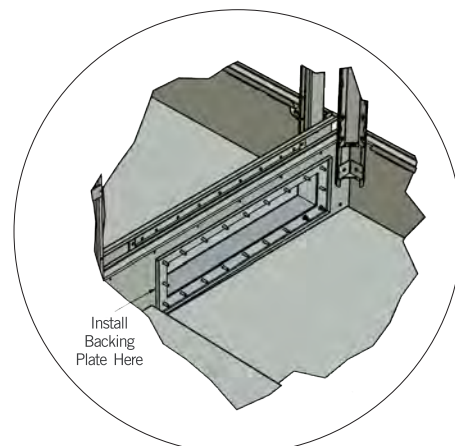

Figure 14. Backing Plate Installation
6. As illustrated in **Figure 13**, insert 3/8” x 1 1/4” thread cutting screws in each hole from the flume box into the basin wall and tighten. For basins with TriArmor® Corrosion Protection System and stainless steel basins, bolt strips are provided in lieu of individual thread cutting screws. For TriArmor basins only, a backing plate is provided and must be installed inside of Cell #2, as seen in **Figure 14**. Secure using the provided hardware.